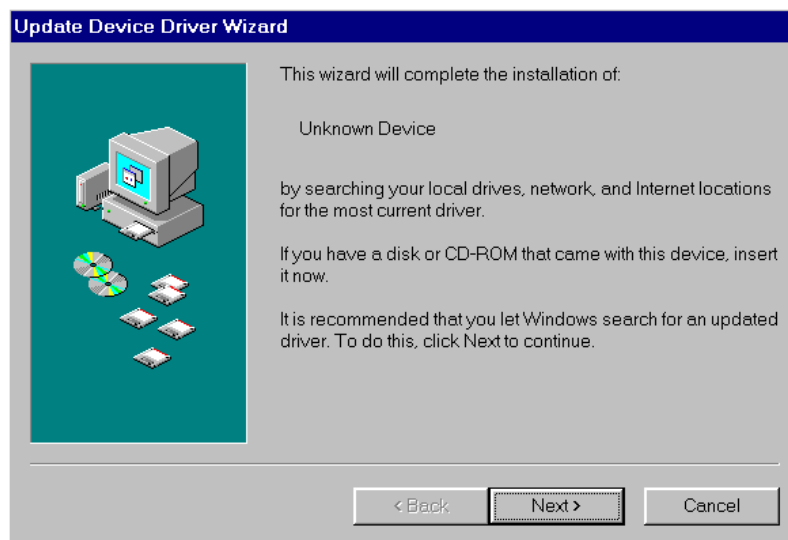

Figure 16
- 6) Windows will not be able to find a driver since none are loaded. The window in Figure 16 will indicate that Windows could not find the appropriate drivers and is giving you the opportunity of providing them.